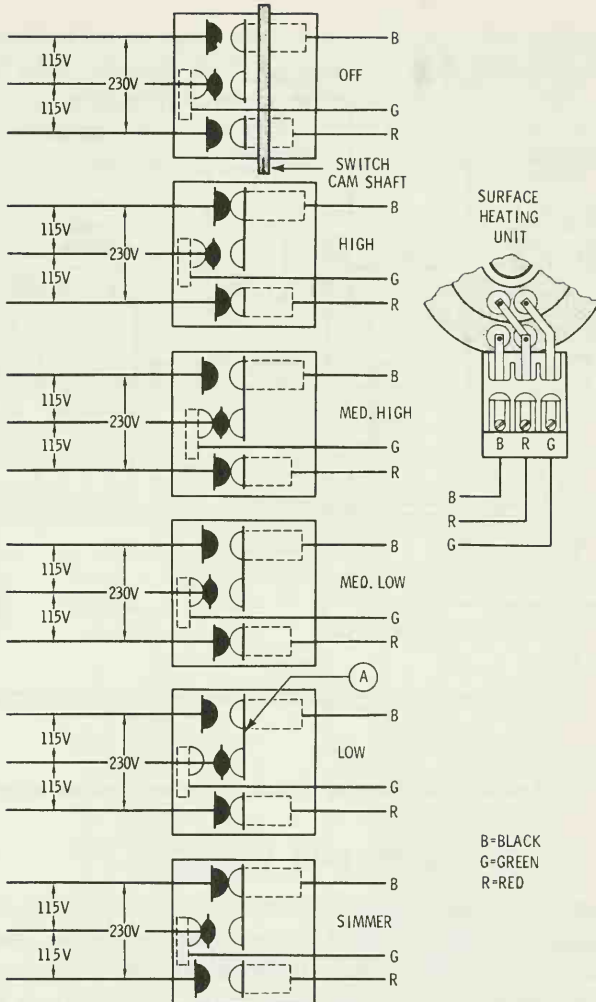

Fig. 14. A five-heat load-balancing switch.
The five-heat load-balancing switch, shown in Fig. 14, is similar to the previously described three-heat switch; however, it can supply a greater flexibility of heating temperatures because of the additional heat-control steps.
With the aid of Fig. 14, it is possible to trace the various circuits with the heating-unit switch in any position. The green wire, as indicated, is the neutral in all positions except "low" and "medium high" heat. In the "low" heat switch position, the black wire becomes the neutral because of the jumper (A) between the two contacts on the black wire switch terminal. In the "medium high" heat position, both the black and the green wire terminals are connected to the neutral, thereby producing two 115-volt circuits.